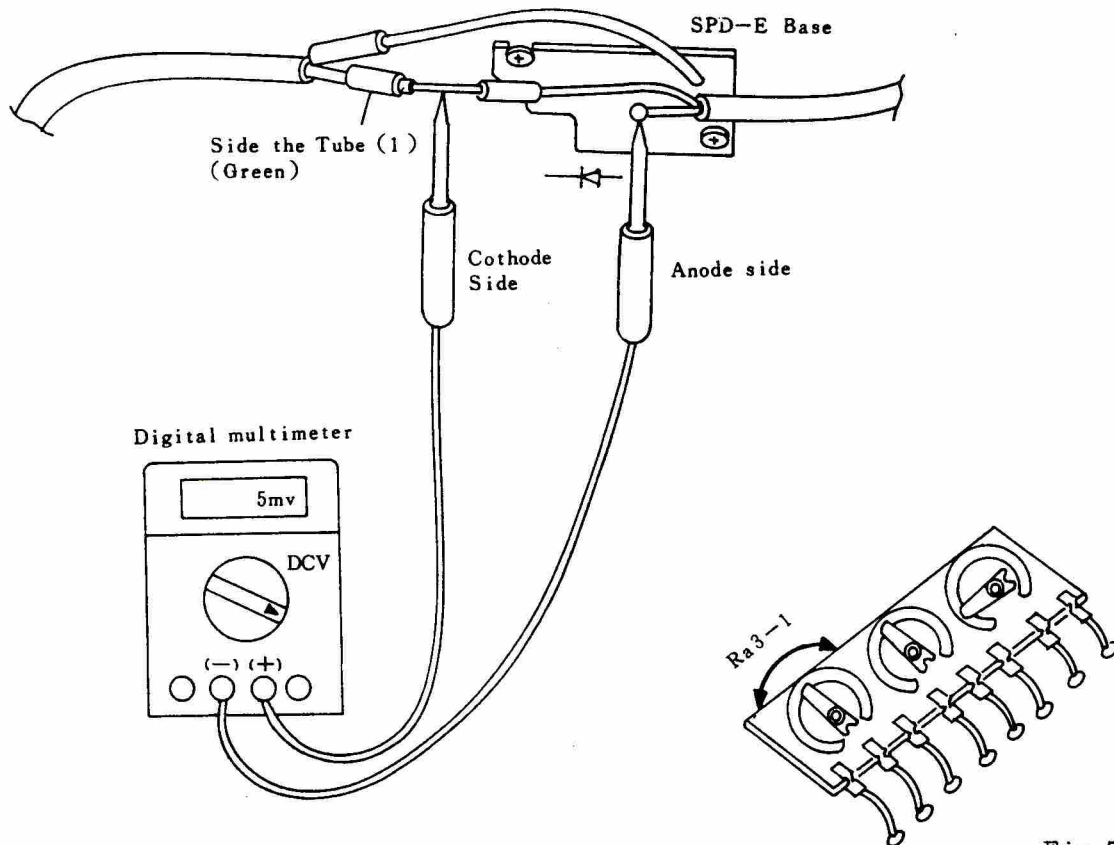

Fig 57
- ① Measurement should be made by exposing to light of more than LV15.
- ② Connect (+) of digital multimeter to Cathode side of SPD-1, (-) of digital multimeter to Anode side of SPD-1 and then read the voltage, See (Fig 57).